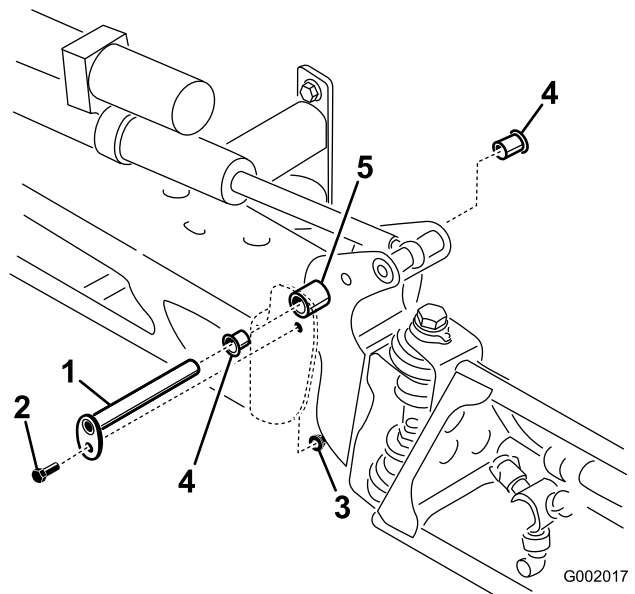

Figure 62
3. With the weight of the boom supported, remove the bolt and nut securing the pivot pin to the boom assembly (Figure 62). Remove the pivot pin.
5. Remove and inspect the nylon bushings from the front and back sides of the pivot bracket (Figure 62). Replace any damaged bushings.
7. Install the boom and pivot bracket assembly into the center frame, aligning the openings (Figure 62).